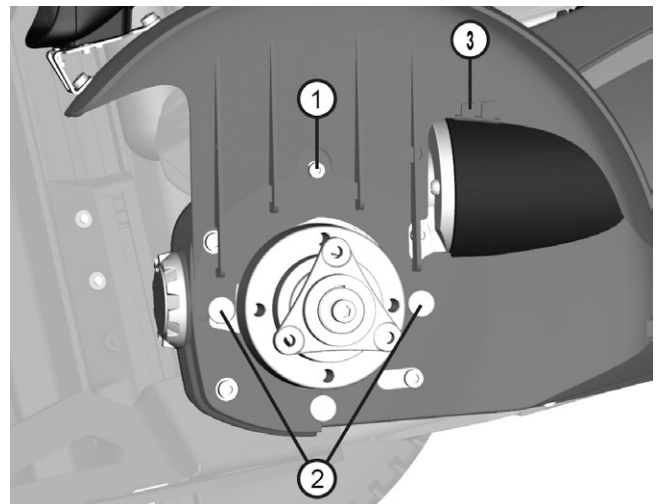

Figure 24. The front fender is fitted with one screw (1) and two fixing points (2) at the bottom.
The front fender is assembled with a screw (1) and two fixing points (2). See fig. 24.
In fig. 24 the wheelchair is shown without the drive wheel to get a better view of the front fender. The drive wheel do NOT need to be removed for this operation.
1. Position the front fender making sure the two fixing points (2) are correctly positioned in the grooves on the fender. See fig. 24.
2. Assemble the screw (1) and washer. See fig. 24.
The front fender and the drive motor cover should be attached in a groove (3). See fig. 24.